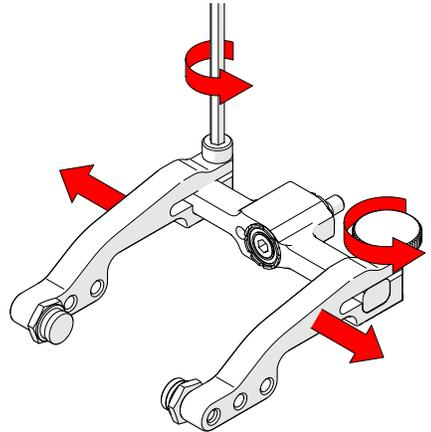

Fig. 165 - Remove arms
2. Loosen the probe holder arm adjustment knob and arm clamp screw. Slide the arms from the yoke (Fig. 165).